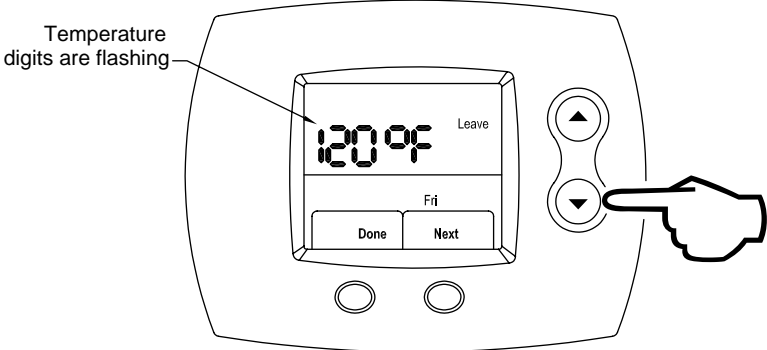

Figure 131
Step 14: Using the **UP** (increase water temperature) or **DOWN** (decrease water temperature) buttons, select the Leave period desired water temperature. This is shown in Figure 131.